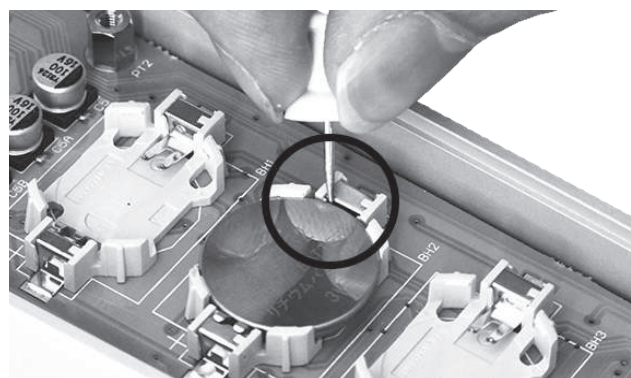

Fig. IR 2
• To remove the batteries, access the battery compartment as explained in the previous paragraph. Then, pick the appropriate tool from the packaging, as shown in FIG. IR 2, and gently insert it on one side of the battery holder. Then, apply a slight pressure, in order to allow the battery to come out. Repeat this operation for all batteries, then screw the back panel on again;
• Do not try to extract the battery with hands, this could cause serious damage to the battery holder and to the unit. Use the provided thumbtack as shown on the FIG. IR 2.